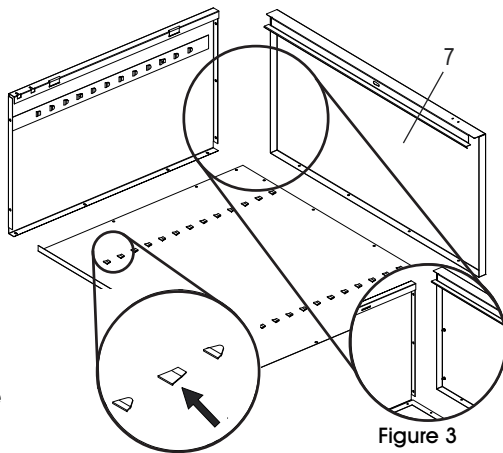

Figure 3
3. Attach the top (7) to the unit by sliding the outer flange over the back of the unit and the side flange to the side panel on the unit. The threaded studs should go through the holes in the top flange of the side and fasten with three nuts. Attach the back to the top using four bolts and nuts. (See Figure 3)